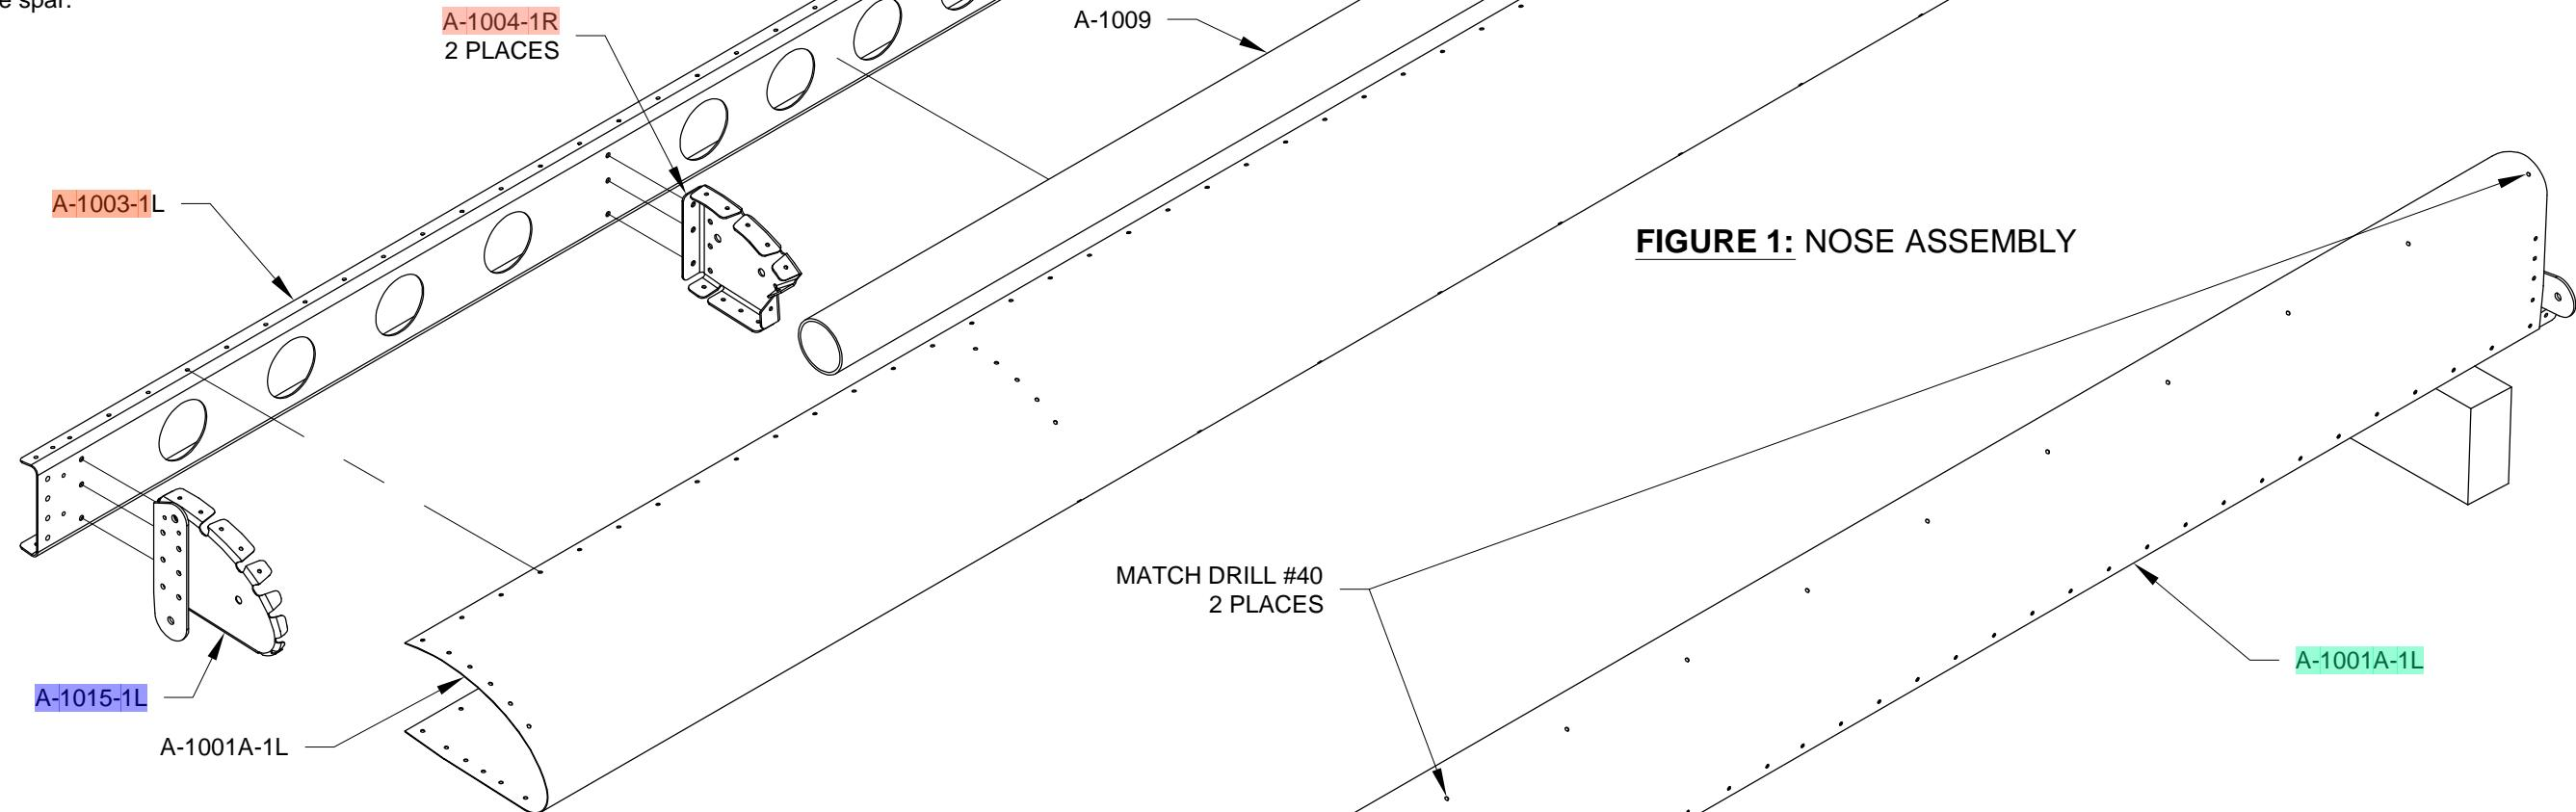

FIGURE 1: NOSE ASSEMBLY
NOTE: The construction technique for the ailerons is similar to that of the rudder and elevators. The aileron uses ribs at the ends only while light angle stiffeners support the rest of the skin. The aileron must be kept flat while drilling and riveting. A cradle to hold the aileron in a vertical position while riveting is required. Since the aileron has a thinner cross section than the flap, make the cradle using the **FL-1004-1L** Flap Nose Rib as shown in the flap assembly manual Page 2, Figure 1. The cradle need not be a perfect fit for the aileron. It is intended mainly as a support for holding the aileron in a position suitable for riveting.
Step 1: Cleco the **A-1004-1R** Nose Ribs to the **A-1003-1L** Spar. See Figure 1. Cleco the **A-1015-1L** Inboard Nose Rib and **A-1008-1** Doubler to the spar.
Step 3: Cleco the **A-1001A-1L** Nose Skin to the lower flange of the **A-1003-1L** Spar at every third hole. Lay the A-1009 Counterbalance into the nose skin so that it is flush with the outboard edge of the nose skin. Cleco the nose skin to the top flange of the spar at every third hole applying downward pressure on the nose skin if/as required to insert the clecos. Cleco the nose skin to the **A-1004-1R** Nose Ribs and to the **A-1015-1L** Inboard Nose Rib as shown in Figure 1. Place the assembly leading edge up onto a narrow table or blocks as shown in Figure 2.